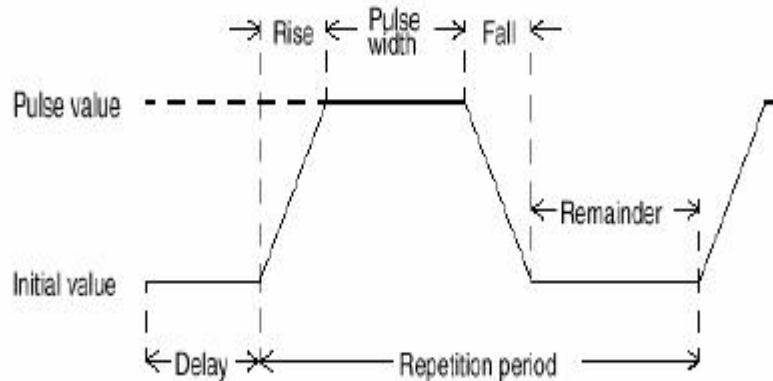

Figure 2. Waveform
- (d) The Force type is to be selected as Pulse with following values: (see figure 2)